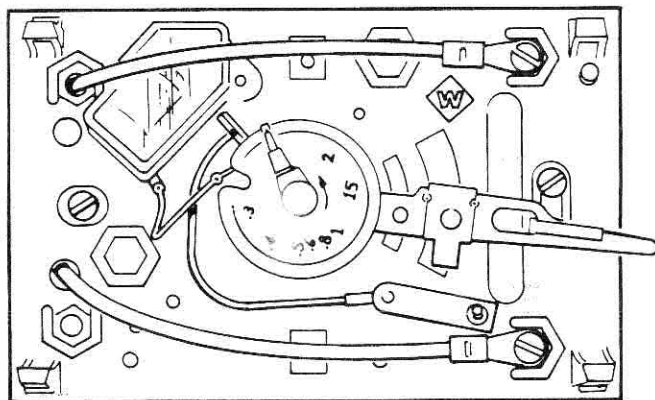

Figure 36-4. Wall Thermostat
(19) To light furnace, refer to paragraph 36-6b.
d. Wall Thermostat Removal (fig. 36-4). To remove wall thermostat, proceed as follows:
(1) Applying a slight pressure upward, lift cover from thermostat base.
(2) Disconnect gray and black leads from terminals on right side.
(3) Unscrew two mounting screws on left and right sides of base.
(4) Carefully pull base from wall, allowing gray and black leads to slide through holes in base, but not fall back into wall.
e. Wall Thermostat Installation (fig. 36-4). To install wall thermostat, proceed as follows:
(1) Set adjustable heat anticipator at 0.75 amps.
(2) Place thermostat base in position, with UP on left-hand or toward rear of coach.
(3) Insert gray and black leads through holes provided in base and secure at right-hand terminals (gray at top, black at bottom).
(4) Secure base to wall using two screws.
(5) Press cover on base and set wall thermostat to a higher than ambient temperature and check that furnace comes on automatically, then return thermostat to desired setting.